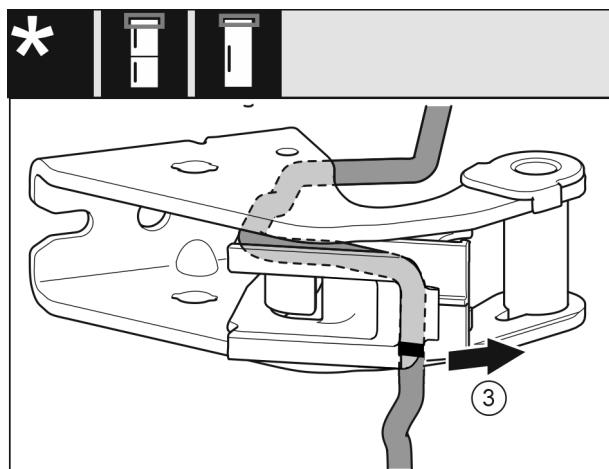

Fig. 25
- ▶ Remove the cable with the cable holder from the bearing bracket. Fig. 25 (3)